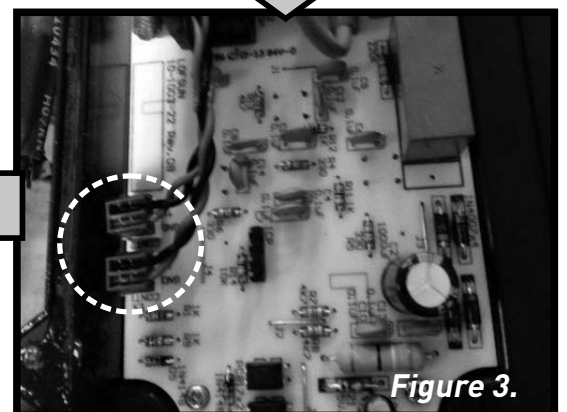

Figure 3.
6. Connect the control cable to the circuit board connectors marked "High Speed" and "Low Speed" as shown in **Figure 3**.